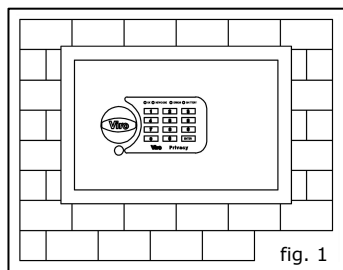

fig. 1
- Optimal Depth: the safe door should be perfectly aligned to the wall (see fig. 1).
- Fix the safe into the hole after checking the correct position i.e. door hinges are positioned on right-hand side when you face it and the installing surface is plane (see fig. 1).